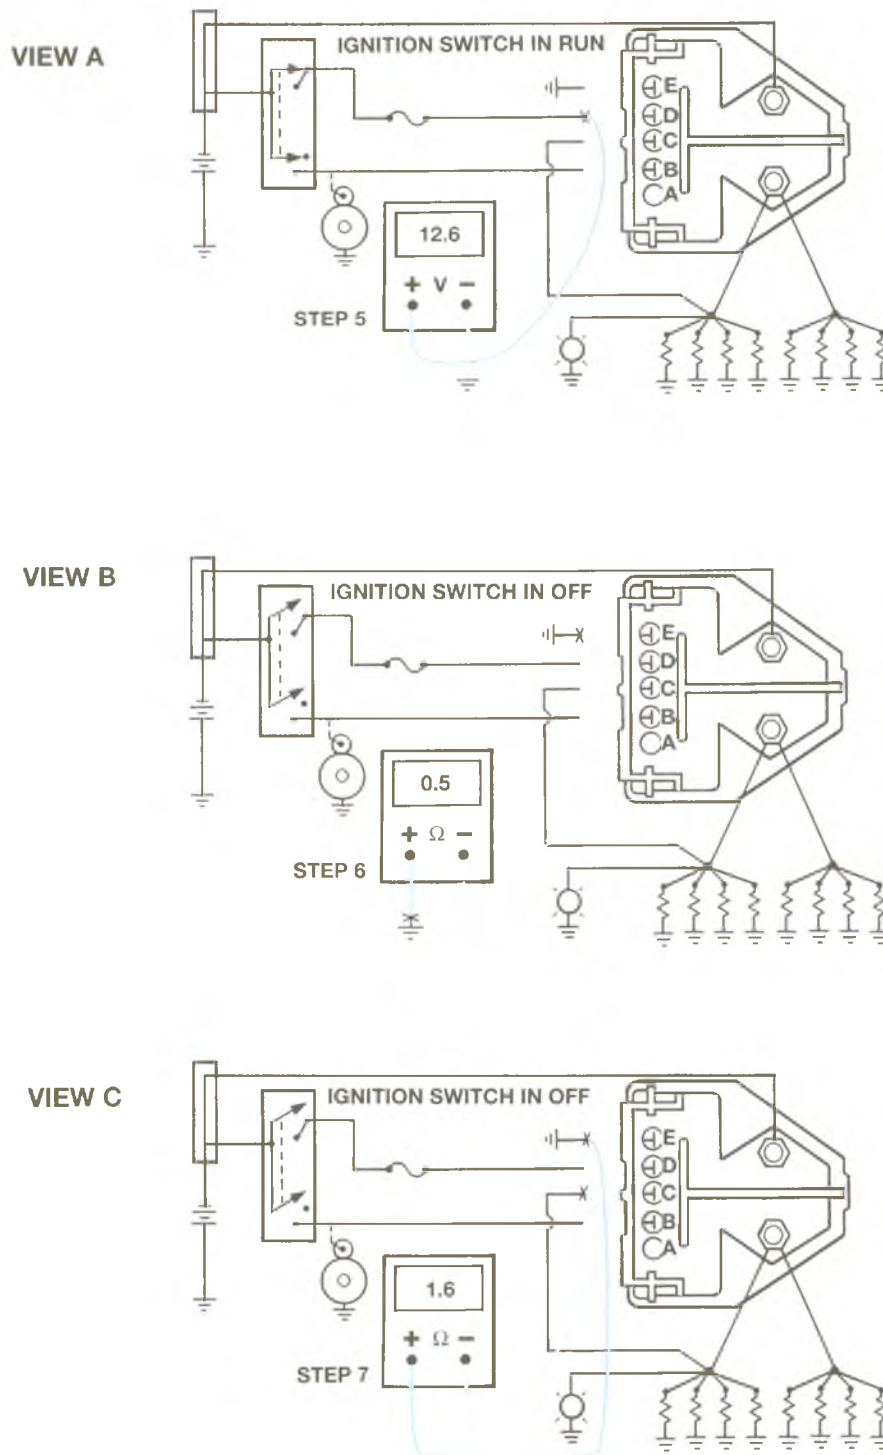

Figure 8-22, Glow Plug System Diagnosis – Secondary Checks (2)
5. Remove the controller circuit electrical connector, move the ignition switch to RUN and measure the voltage at terminal D (harness side) (refer to Figure 8-22, view A):
6. With the controller circuit electrical connector removed, measure the resistance between terminal E (harness side) and the cylinder case (refer to Figure 8-22, view B):
7. With the controller circuit electrical connector removed, measure the resistance between terminals C and E (harness side) (refer to Figure 8-22, view C):